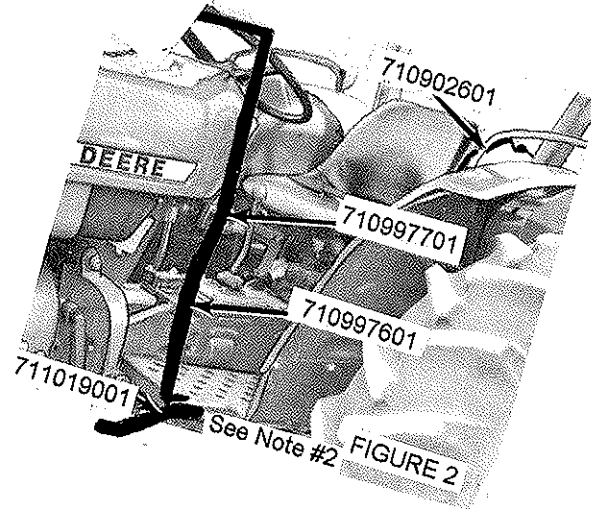

FIGURE 2
3. Insert #710997601 door post into wide hem on left side and bolt top to yoke using 1/4" x 1" bolt and nut. Set bottom of door post on step so back hole is 11/2" from front edge of step. Adjust angle of post so that steering arm does not interfere with door post. Drill (2) 13/32" holes in step and bolt door post to step using 3/8" x 11/2 bolts and nuts. Bolt post bracket to door post using 5/16" x 1" bolt and nut. See Figure 2.